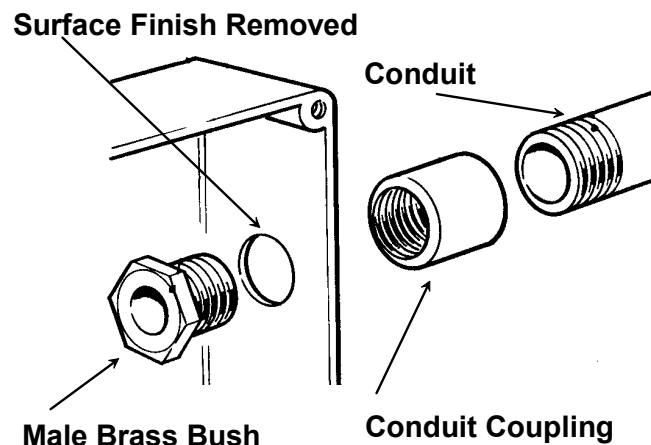

Figure 6A
- The coupling and male bush method, see Figure 6A (Usually used and preferred)